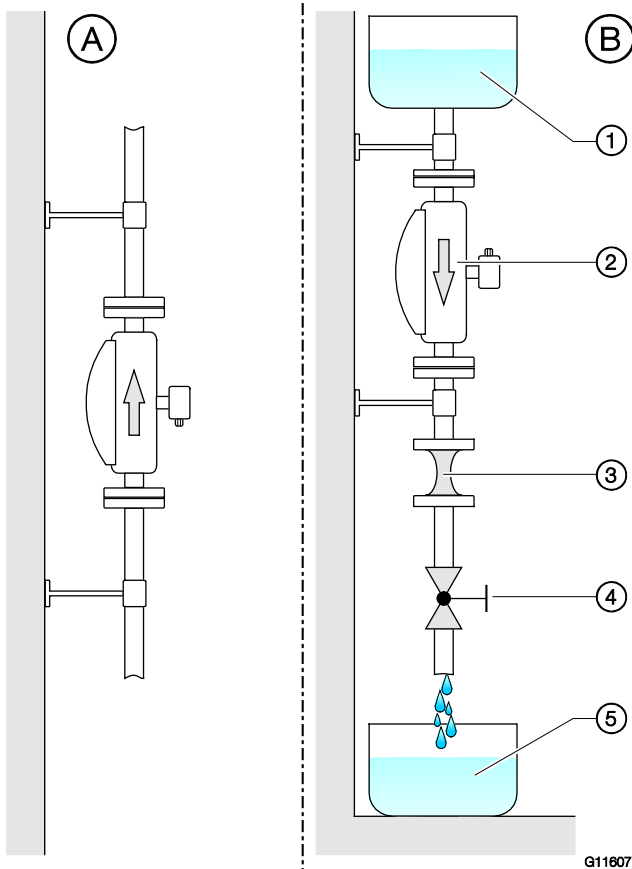

Fig. 3: Vertical installation
- The required self-draining functionality of the sensor can only be guaranteed when the vertical mounting position is used (see also Fig. 3 on page 7).